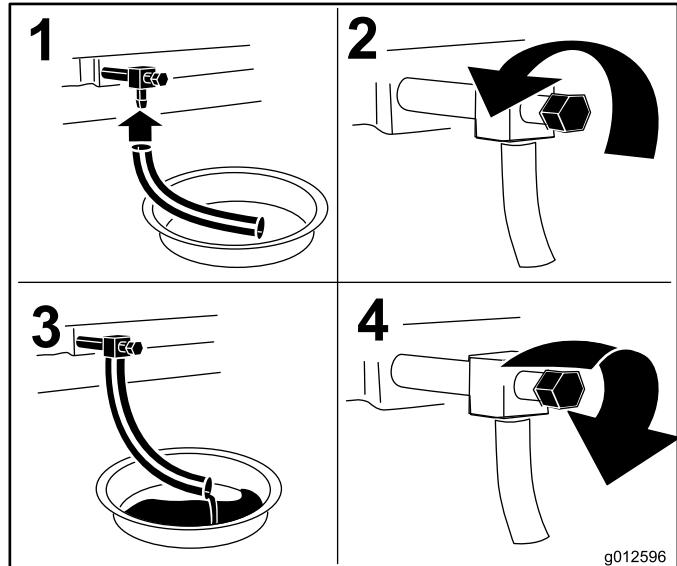

Figure 44
3. Stop the engine, remove the key, and wait for all moving parts to stop before leaving the operating position (Figure 44).